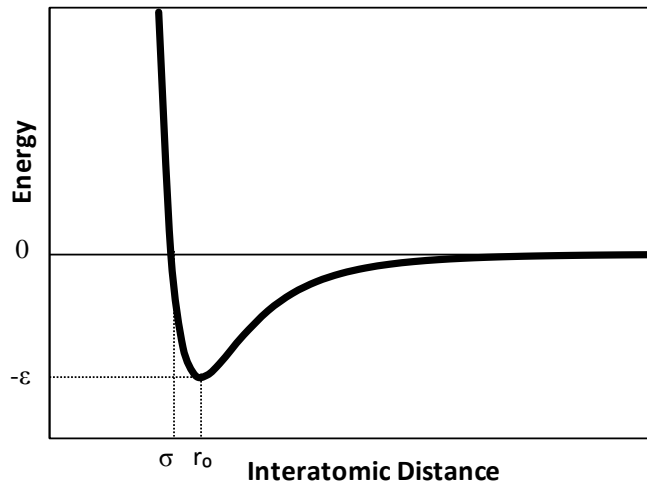

Figure 1. Schematic of the Lennard-Jones Pair Potential
1. A typical potential curve for most materials looks like the one shown in Figure 1. Referring to the curve, why do most materials expand with increasing temperature?